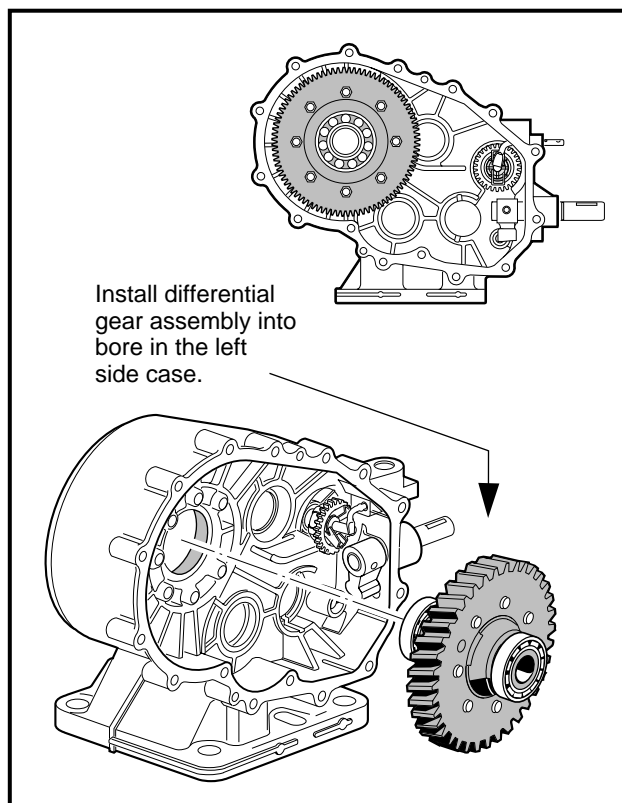

Figure 16-73 Differential Gear Assembly
- 7.1. Stand the left side case on the mounting plate, then install the differential gear case assembly as shown (**Figure 16-73, Page 16-31**). Do not seat the assembly in the bore, but insert it just far enough that it will not fall out.